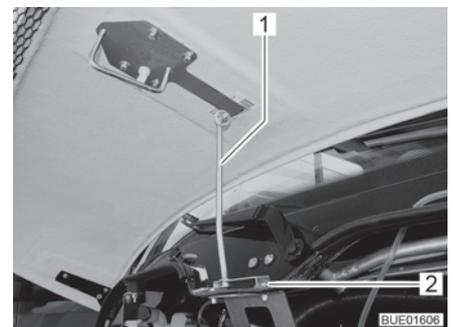

Fig. 40 Bonnet support
- Securing: ■ Unfold the support (Fig. 40,1) and attach to the holder (Fig. 40,2).